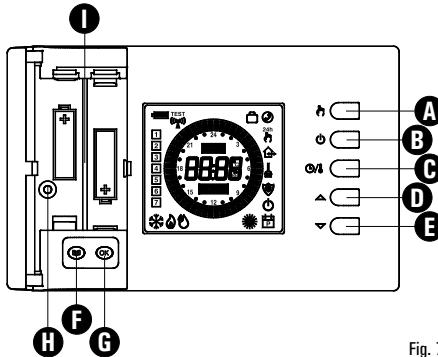

Fig. 7
- Insert the batteries in the battery compartment (I in Fig. 7); see paragraph 'HOW TO INSERT/REPLACE THE BATTERIES'.